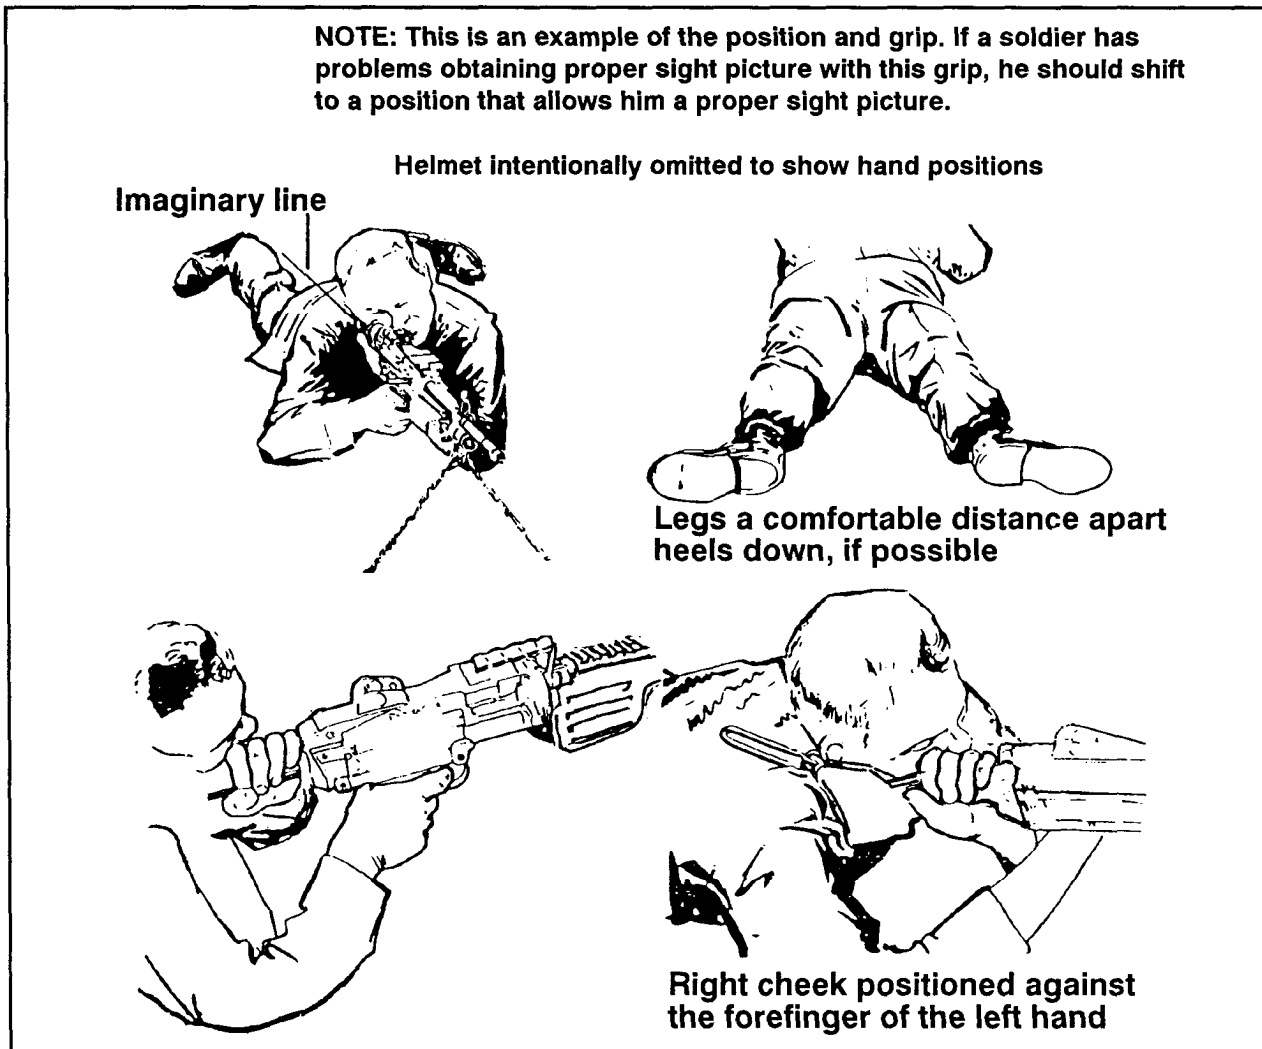

Figure 5-3. Prone position, bipod-supported.
(1) Assume a prone position to the rear of the weapon and place the shoulder rest on your firing shoulder. An imaginary line drawn through the weapon should bisect the firing shoulder and buttock and continue through the heel of your foot.
(2) Spread your legs a comfortable distance apart with heels as close to the ground as possible and yet still be comfortable.
(3) Grasp the pistol grip with your firing hand with the fleshy end of the index finger resting lightly on the trigger. Place your nonfiring hand on the small of the stock with your thumb curled underneath. Slide your nonfiring hand forward until your little finger touches the receiver, so your aiming point will always be the same.
(4) Place your cheek against the forefinger of your nonfiring hand to form a stock weld. Try to position your nonfiring hand and cheek at the same spot on the stock each time you fire the weapon. The stock weld should provide for a natural line of sight through the center of the rear sight aperture to the front sight post and to the target. Relax your neck so that your cheek rests on your forefinger naturally.
(5) Apply a firm, steady pressure rearward and down, holding the weapon tightly into the hollow of your shoulder while aiming and firing.
(6) Keep your shoulders level and elbows about an equal distance from the receiver of the weapon (Figure 5-3).